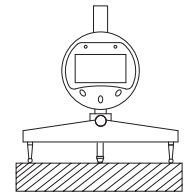

fig.4
- (2) Set zero: Put the gauge on a plain surface and set zero(fig.4).
- (3) Put the gauge on an arc, "R1", "R2" or "A" will be displayed automatically.